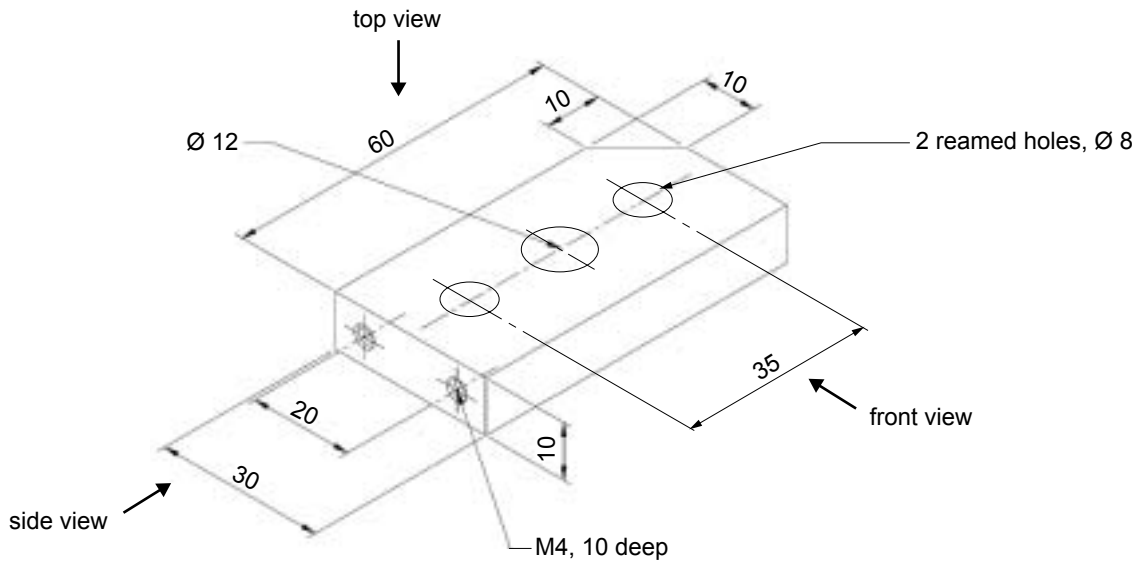

Figure 2. Baseplate
Figure 2 is an isometric drawing of a baseplate. Use this drawing to answer the questions which follow.
a. What size thread is used for the two tapped holes shown in Figure 2?